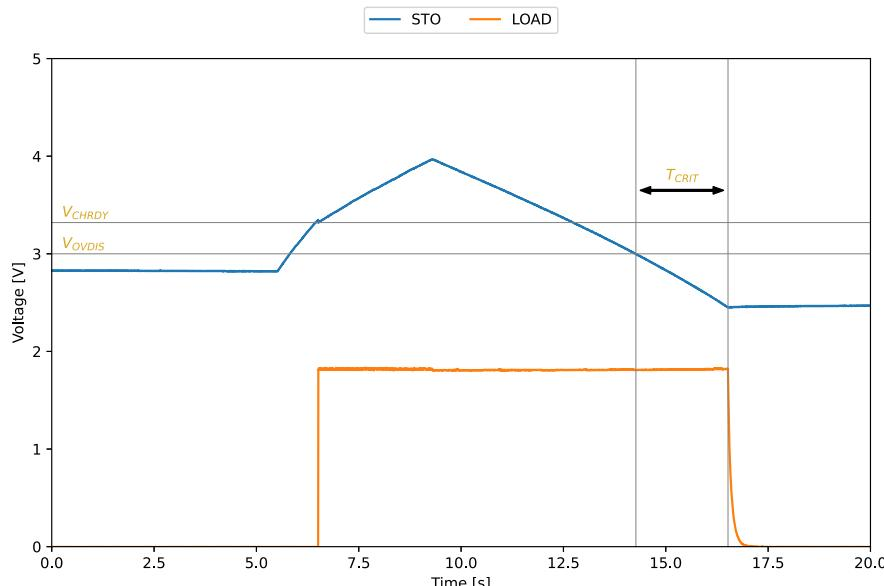

Figure 4: AEM13920 LOAD output behavior
- Disconnect the power supply or SMU from **SRCx** (done at about 9 s on Figure 4).
Please note that, in a real application, the storage element would be a battery or a supercapacitor, with much higher stored energy, so that V_{STO} would not drop as low as on Figure 4 during T_{CRIT} .